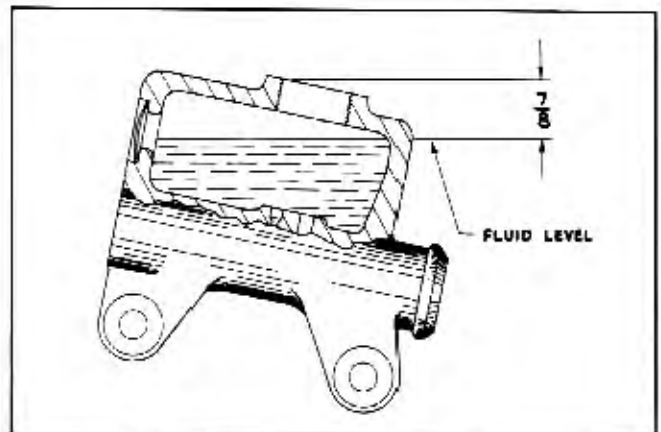

Fig. 5-5 Correct Level in Master Cylinder
The foot brake system requires a check for leaks at regular lubrication periods (see General Lubrication Section), and periodic inspection to see that there is more than 2" from the bottom of pedal pad to floor mat when brakes are applied (2" or less indicates need of adjustment). When the brakes are adjusted, the fluid level in the master cylinder should be checked and brought to $\frac{7}{8}$ " from gasket surface on top of master cylinder filler neck as shown in Fig. 5-5. (Refer to page 5-12 for recommended brake fluid.)
8. Add sufficient brake fluid in the master cylinder to bring fluid level to within $\frac{1}{8}$ " of top of gasket surface on filler neck (Fig. 5-5). Bleed brakes if necessary to get proper pedal reserve and remove "spongy pedal".
4. When bleeding operation is completed, refill reservoir to within $\frac{1}{8}$ " of top of master cylinder filler neck gasket surface (Fig. 5-5) and then replace filler cap. Never attempt to clean fluid that has once been used (see CAUTION in Step 1 above). To avoid trouble and mistakes in the shop, used fluid should be thrown away.